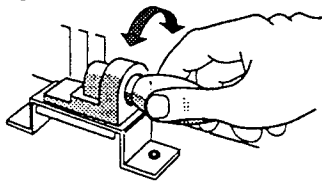

Fig. 2
- 1.2 Carefully rotate the lamp anti-clockwise ↺ until it comes out of its holder (see Fig. 2).